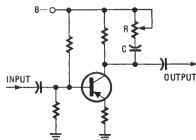

FIG. 2
2. In the circuit shown in Fig. 2: